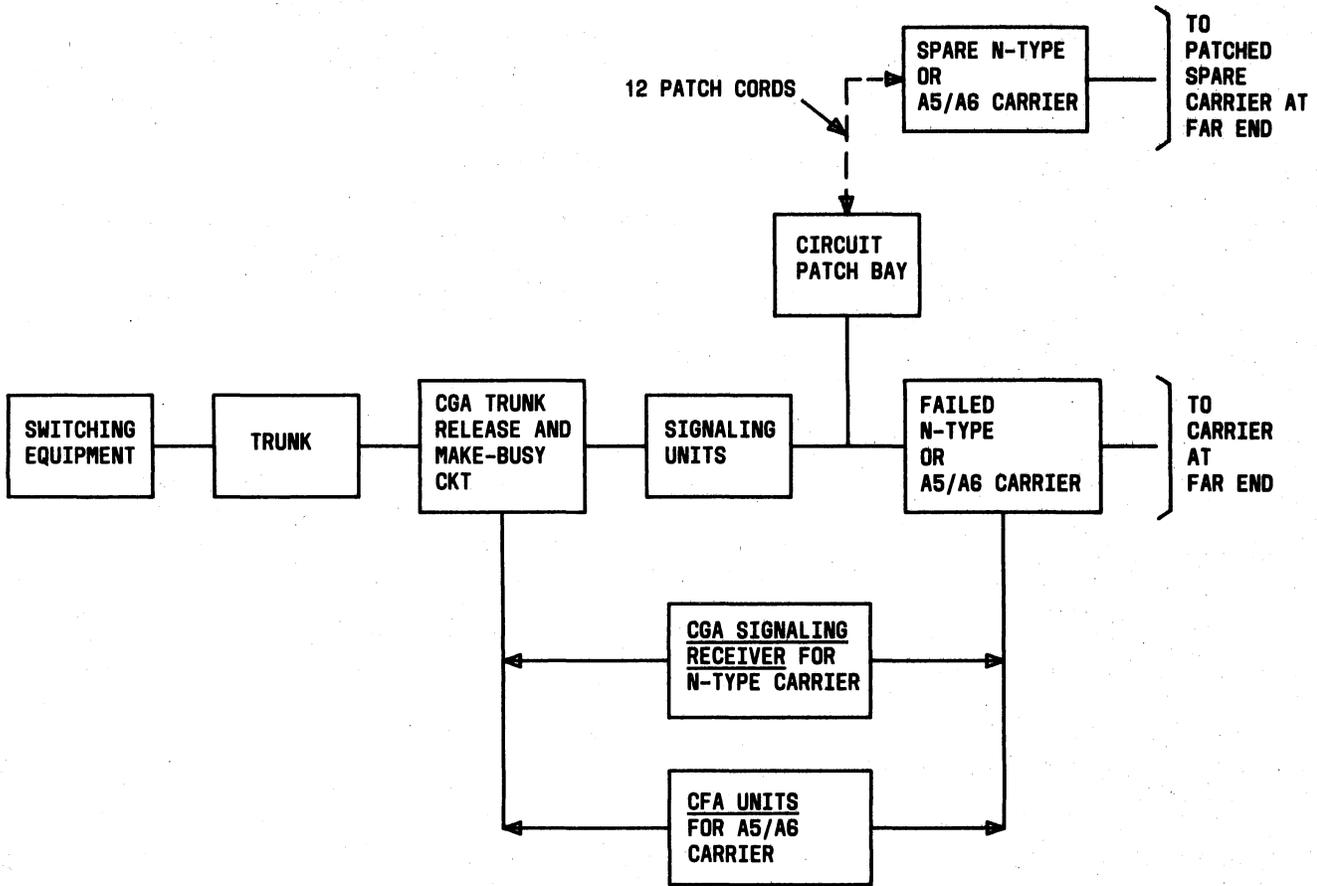

Fig. 3—Illustration of Spare Carrier Patched Across Failed Carrier
**4.13** As previously mentioned, the CGA section of the GYA unit is comprised of two identical control and alarm circuits supporting 24 signaling units in two groups of 12 each. Each circuit has a red carrier alarm (CXR ALM) indicator, located on the faceplate, showing the carrier status of each carrier group. If a carrier failure should occur, the appropriate CXR ALM indicator will be lighted showing which of the two carrier groups (1-12 or 13-24) has failed. Each CGA circuit also has an alarm override (ALO) switch and indicator located on the faceplate. During a carrier failure, special lines or trunks may be returned to service by patching to idle channels of other facilities (see Fig. 3). This is accomplished by making the patch and then operating the ALO toggle switch to the on (up) position. A green ALO indicator will be lighted showing which of the two carrier groups is being overridden. The ALO indicator will remain lighted as long as the ALO switch is operated. The red CXR ALM indicator will be lighted as long as a carrier failure is in progress, even with the override switch operated. When the carrier failure is cleared, the red CXR ALM indicator will go off. If the affected signaling unit group has been patched to other facilities, it may be restored to the regular assigned carrier by removing the patch and placing the ALO switch in the off (down)